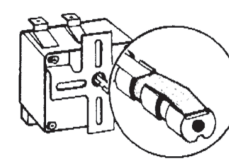

Figure 3
3. Place and snap the knob clip spring into the wide flat channel of the shaft. The straight end of the knob clip spring must point towards the knob end of the shaft. (See Figure 3)